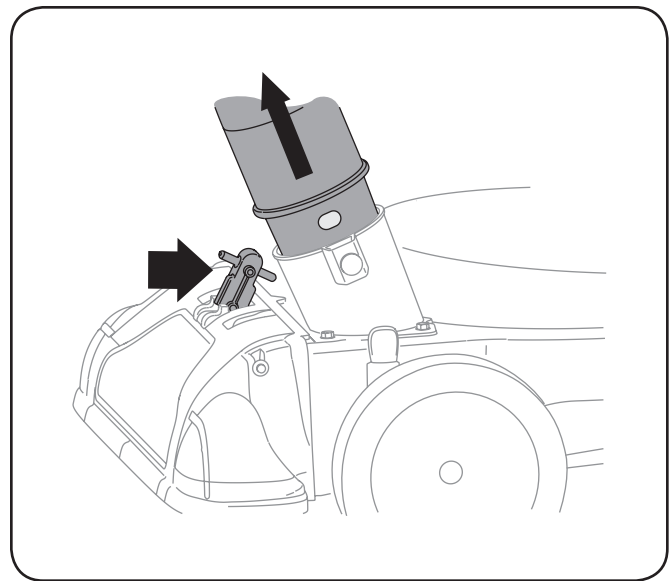

Figure 5-4
1. Place nozzle/hose vac lever in the top position on the nozzle to vacuum through nozzle. See Fig. 5-4.
2. The spring loaded pin must be in the first hole (closest to the end of the tube) of the hose adapter to operate the nozzle vac. See Fig. 5-4.